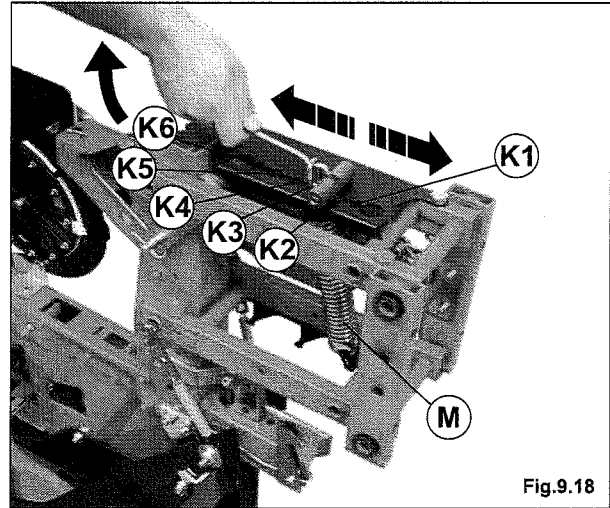
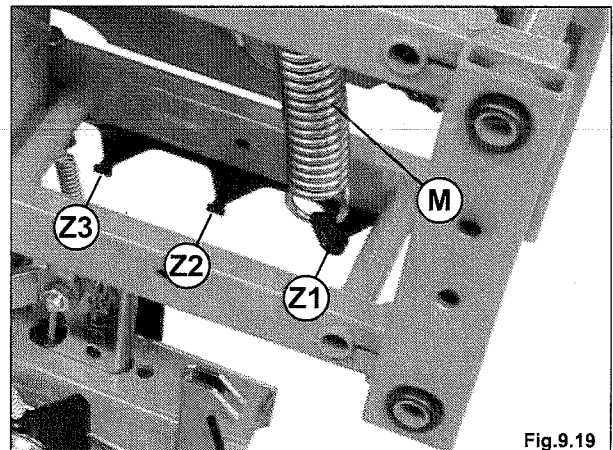

Fig.9.18
Fig.9.19
- Prize with tie rod **T** to move spring **M** to the required position (Fig.9.18).
- Should you wish to make the element lighter displace spring **M** from position **Z1** to position **Z2** or **Z3** (Fig.9.19).
- Displace spring **M** from position **A** (Fig.9.18) to position **B** (Fig.9.19).